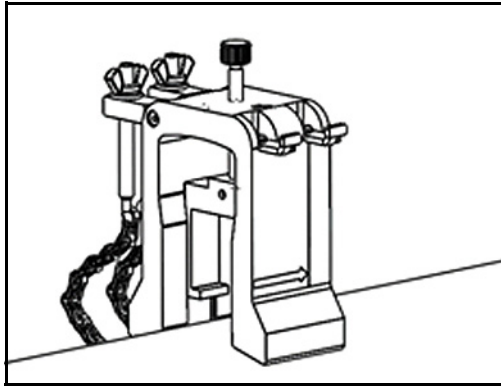

Figure 36: Yoke Placement On Top of Pipe
2. Place the yoke on the top of the pipe (see *Figure 36* below). If the required transducer spacing is < 305 mm/12 in., the yoke chain must be placed within the clamping fixture as shown.